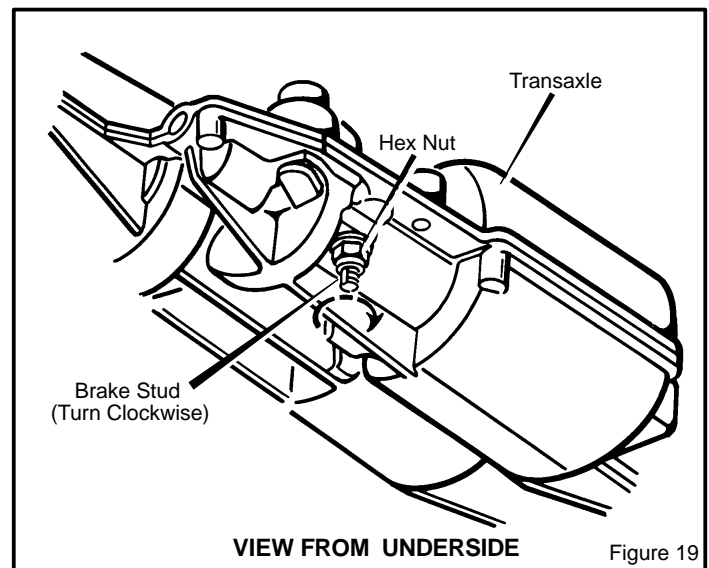

Figure 19
7. The brake adjustment of the **transaxle** is located on the underside of the transaxle (Figure 19). Use one wrench to hold the **brake stud** and another wrench to hold the **hex nut**. Loosen the **hex nut** approximately 2 turns.